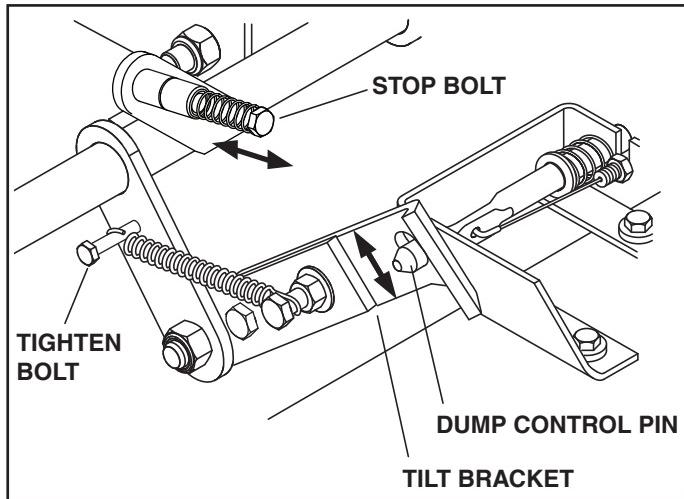

FIGURE 28
STEP 29: ADJUST STOP BOLT (SEE FIGURE 28)